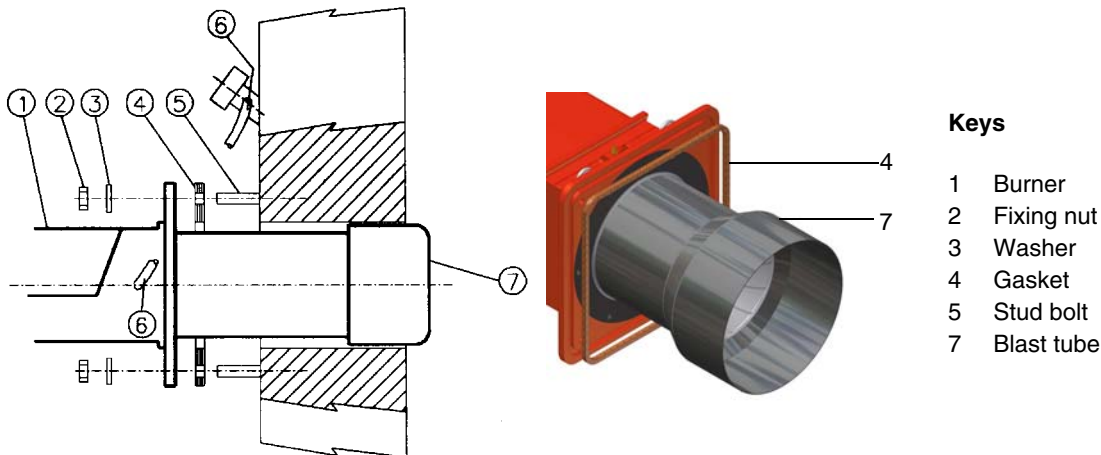

Fig. 4
- 2 screw the studbolts (5) on the boiler door, according to the drilling plate (see paragraph "Overall dimensions");
- 8 fix the burner to the stud bolts, by means of the fixing nuts, according to Fig. 4.